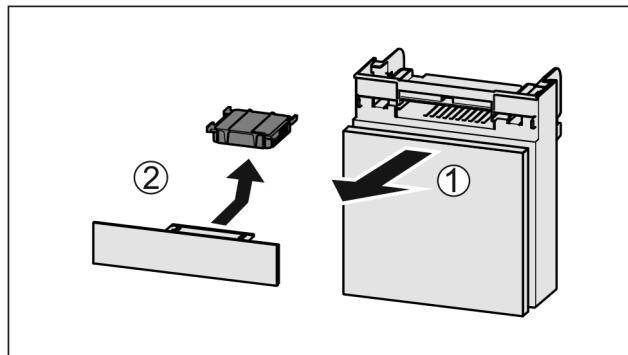

Fig. 142
- Pull out the compartment Fig. 142 (1).
- Remove the carbon filter Fig. 142 (2).